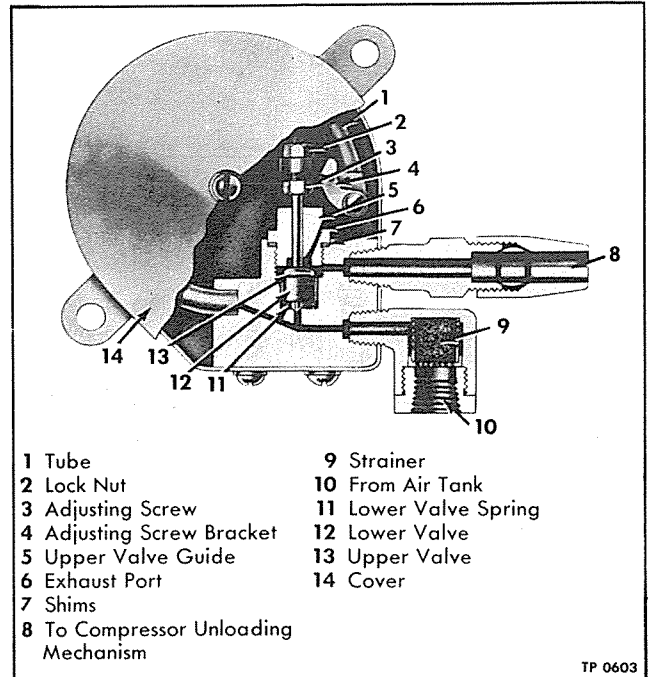

Figure 9—Air Compressor Governor
GOVERNOR OPERATION (Fig. 9)
GOVERNOR ADJUSTMENT (Fig. 9)
GOVERNOR TEST (Figs. 9 and 10)
GOVERNOR DISASSEMBLY (Fig. 9)
GOVERNOR ASSEMBLY (Fig. 9)
2. Install lower valve spring (11) and lower valve (12) in recess in governor body. Install shims (7) in body, being sure to use same thickness of shims as were removed.
3. Insert upper valve stem (13) through upper valve guide (5) and thread upper valve guide into body. Tighten guide firmly.
4. Install adjusting screw (3) and lock nut (2) in adjusting screw bracket (4) and install bracket on end of tube (1). Tighten screw attaching bracket to tube firmly.
8. Thread air strainer into lower opening in governor body and tube connection into upper opening. Tighten firmly, with air strainer positioned as shown in figure 9. Plug both openings against entrance of dirt during installation.